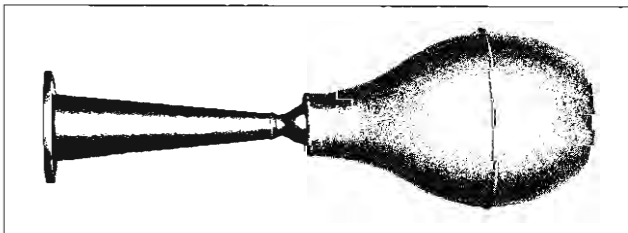

Fig. 23—Vacuum Cup
2. Assemble the remaining valves, valve springs, shields, spring caps, oil seals and valve keys in the cylinder head using Tool J-8062. Check seals by placing a vacuum cup shown in Figure 23 inset, over valve stem and cap, squeeze vacuum cup to make sure no oil leaks past oil seal.